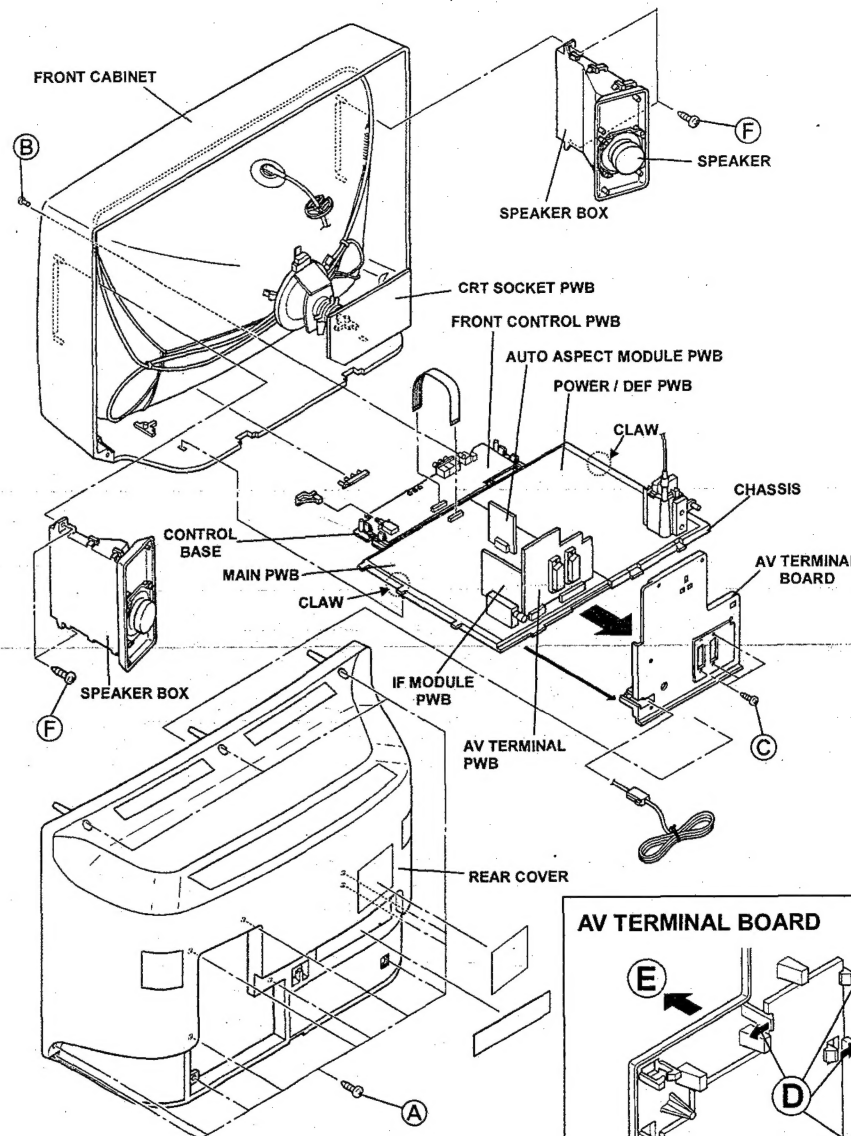

Fig. 1
1. Remove the 3 screws marked "C" as shown in the Fig. 1.
1. Remove the 2 screws marked "F" as shown in Fig. 1.